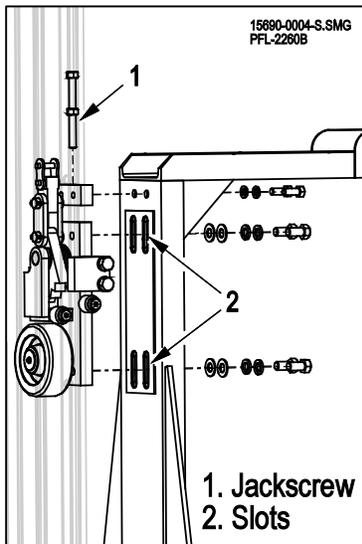

Figure 6 (straddle shown)
8. Remove the wheelblock jackscrews, **Figure 6.** Don't loosen the adjustable bolt nut. It will help to re-install the wheelblock in the original location.